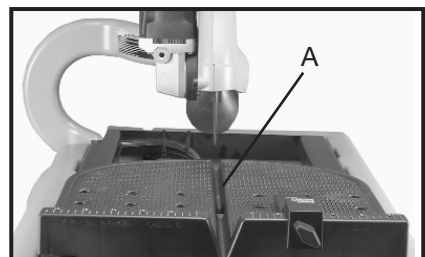

Fig. 22A
⚠ WARNING Make sure your fingers and hands are not in the cutting line of the blade (A) Fig. 22A.
The rip guide (A) Fig. 22A is used to make precision cuts. Loosen knob (B), position the rip guide on the cutting tray scale to the amount of tile to be cut off and then tighten knob. Hold the tile against the rip guide and the cutting tray and proceed to cut the tile as discussed in the section **“OPERATING TILE SAW.”**